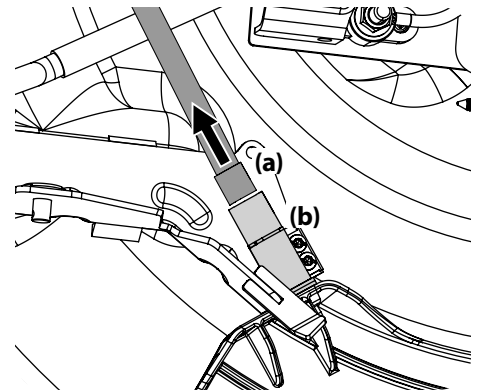

Figure 4-6
6. Unplug the wire connector (a) from the safety switch (b) at the rear of the chute opening. See Figure 4-6.
Note: Be sure to securely reconnect the wire connector (a) to the safety switch (b) in Figure 4-6, you rider will not start or operate without the safety switch properly connected.